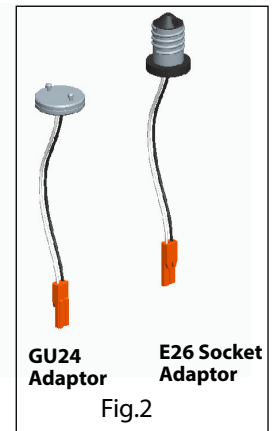

Fig.2
2. Thread the **E26 Socket Adaptor** connector into the **Existing Housing** with a medium base socket. (**GU24 Adaptor** available separately Cat. No.). (Fig.2)